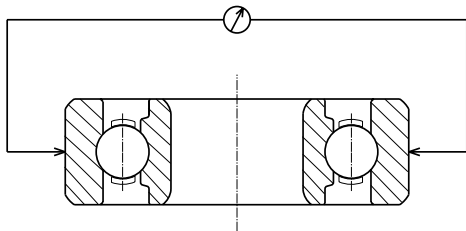

Figure 2-2
- Outer Diameter (D_s) Figure 2-2